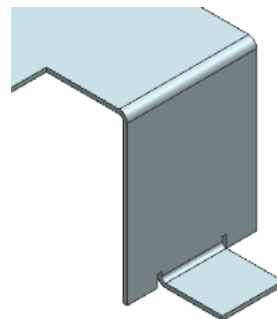

Figure 14-111 The centered flange
7. Enter **15** in both the **Width** and **Length** edit boxes of the **Flange** dialog box, and choose the **Apply** button; the centered flange is created, as shown in Figure 14-111.